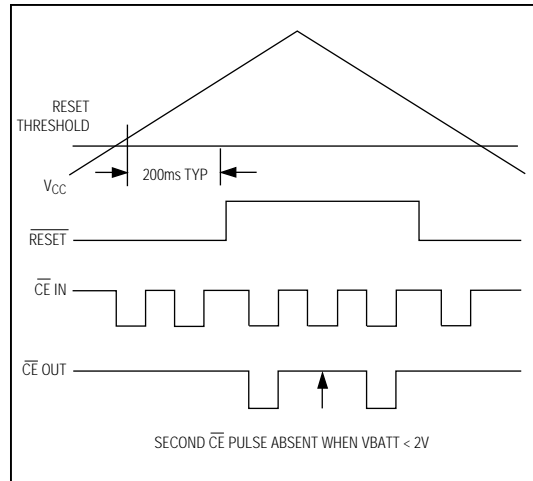

Figure 11. Backup-Battery Monitor Timing Diagram
The MAX791 low-battery voltage function monitors VBATT. Low-battery detection of $2.0V \pm 0.15V$ is monitored only during the reset-timeout period (200ms) that occurs either after a normal power-up sequence or after the \overline{MR} reset input has been returned to its high state. If the battery voltage is below 2.0V, the second CE pulse is inhibited after reset timeout. If the battery voltage is above 2.0V, all CE pulses are allowed through the CE gate after the reset timeout period. To use this function, after the 200ms reset delay, write 00 (HEX) to a location using the first CE pulse, and write FF (HEX) to the same location using the second CE pulse following \overline{RESET} going inactive on power-up. The contents of the memory then indicates a good battery (FF) or a low battery (00) (Figure 11).